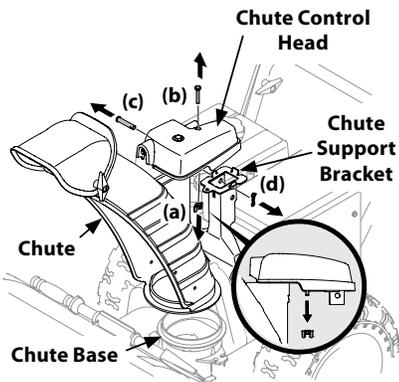

Figure 2-13
1. Remove wing nut (a) and hex screw (b) from chute control head and clevis pin (c) and cotter pin (d) from chute support bracket. Position chute assembly (forward-facing) over chute base. See Figure 2-13.